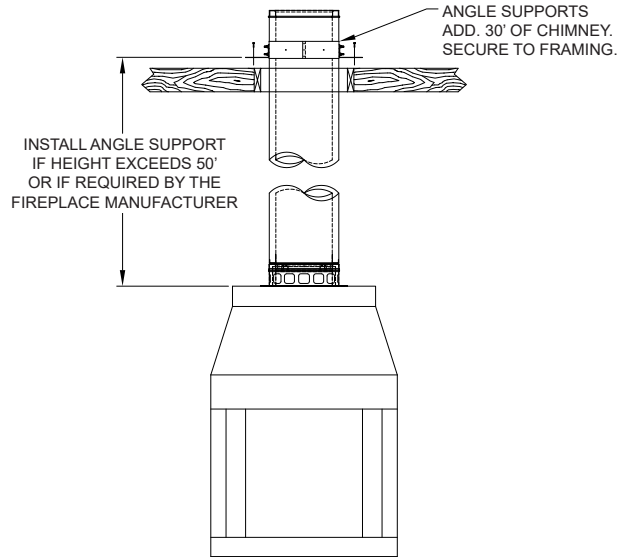
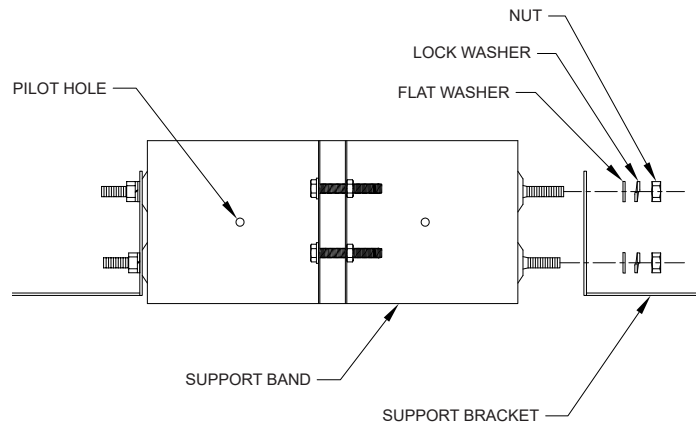

FIG. 5
FIG. 6
**Angle Support and Support Band:** Install an Angle Support if total chimney height is greater than 50 feet, or if the fireplace manufacturer requires it. If additional support is needed, install one or more Angle Supports which will support 30 feet of chimney. See FIG. 5. Slide the Angle Support around the chimney and align over framed opening. Secure to casing with (4) sheet metal screws and assemble brackets per FIG. 6.